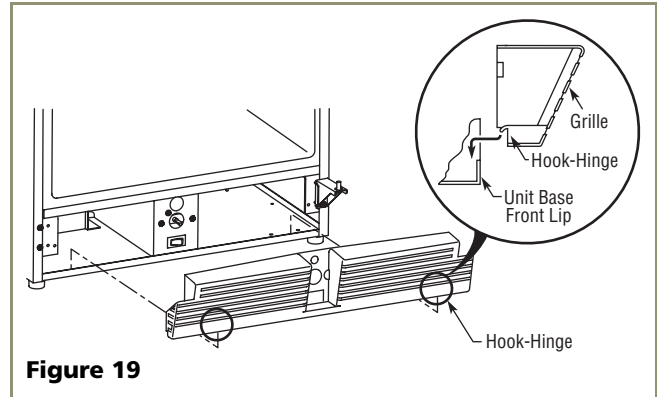

Figure 19
4. Place the two hook-hinges (located on the rear bottom side of the grille) onto the front lip of the unit base. Swing the grille up into position, aligning the grille screw hole on the grille to the grille screw hole on the cabinet. See **Figure 19**.